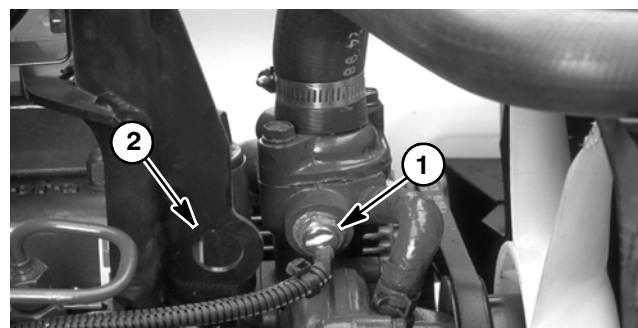

Figure 23
- C. High temperature warning switch (Fig. 23).